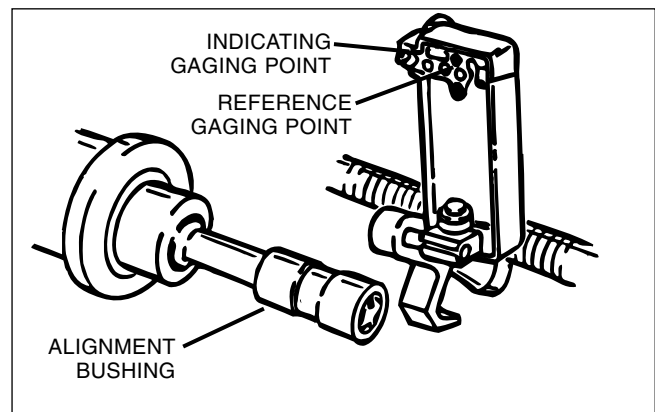

FIGURE 2-11, Runout Indicator Gaging Point
5. Note reference gaging point and indicating gaging point on indicator (see Figure 2-11). They should be spaced as far apart as possible without exceeding length of alignment bushing. If necessary, remove Knob A (reference gage point) by unscrewing it and inserting it in another hole. Sliding Block will slide out to provide even greater separation of gaging points.